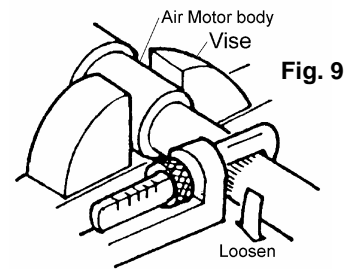

Fig. 9
- 4) Fix the air motor body of the pump on a vise. (Fig.9)
- 5) Set a pipe wrench on the knurling part of the suction tube and unscrew the suction tube to remove the suction tube. (Fig.9)